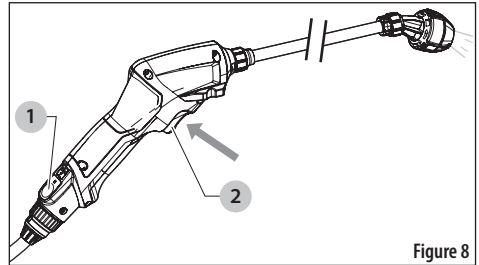

Figure 8
1. Press the power button (1) to turn the sprayer ON. The light above the power button turns on. See *Figure 8*.
2. Aim the power wand sprayer in the desired direction of spraying and squeeze the trigger (2).
3. To turn OFF the power wand sprayer, press the power button (1). The light above the power button turns off.